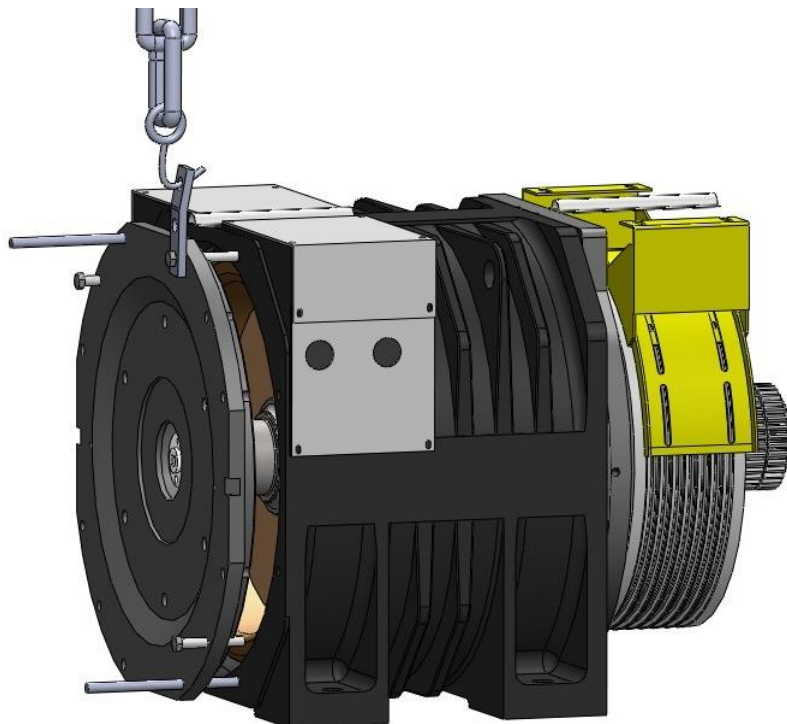

Figure 66: End cover removal
4. Hoist out the end cover with hoisting equipment, until the end cover is out of the bearing. Then take out the wave-spring. See Figure 66.